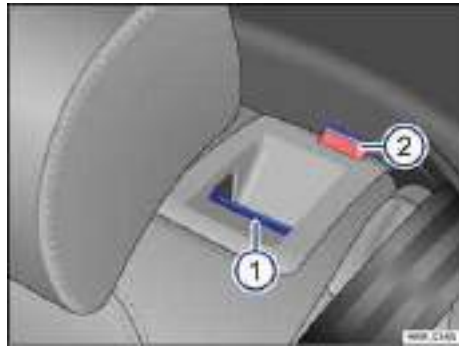

Fig. 89 Rear seat backrest: Release button 1 and red mark on the indicator 2
- Pull the release button ⇒ fig. 89 (1) forward while folding the rear seat backrest forward.
- The rear seat backrest is unlocked if the red mark (2) can be seen on the indicator.
The rear seat backrest is unlocked if the red mark ⇒ fig. 89 \(2\) can be seen on the indicator.